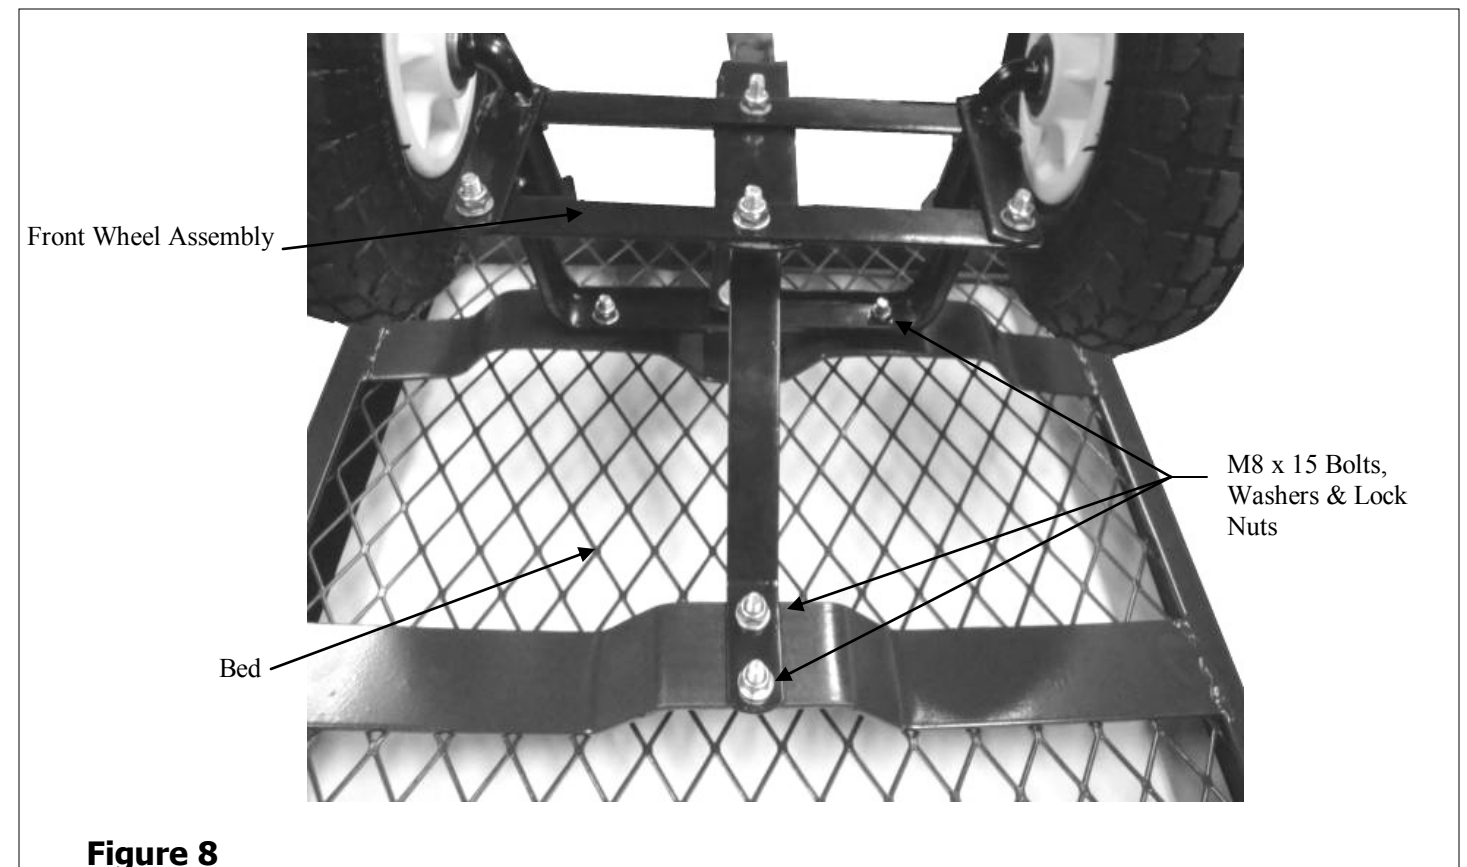

Figure 8
9. Join the Front Wheel Assembly to the Bed by inserting four M8 x 15 Steering Bolts first under the bar through the holes in the metal support bars then into the holes in both the Front Axle Support and the Center Front Axle Brace. Insert Washers onto the Bolts the secure with Lock Nuts. See Figure 8